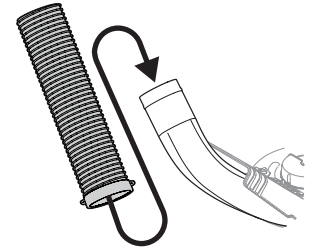

Figure 22
3. Lift by the handles at the bottom of the hose. Slide the hose over the boot mounted on the cutting deck, as shown in Figure 22.